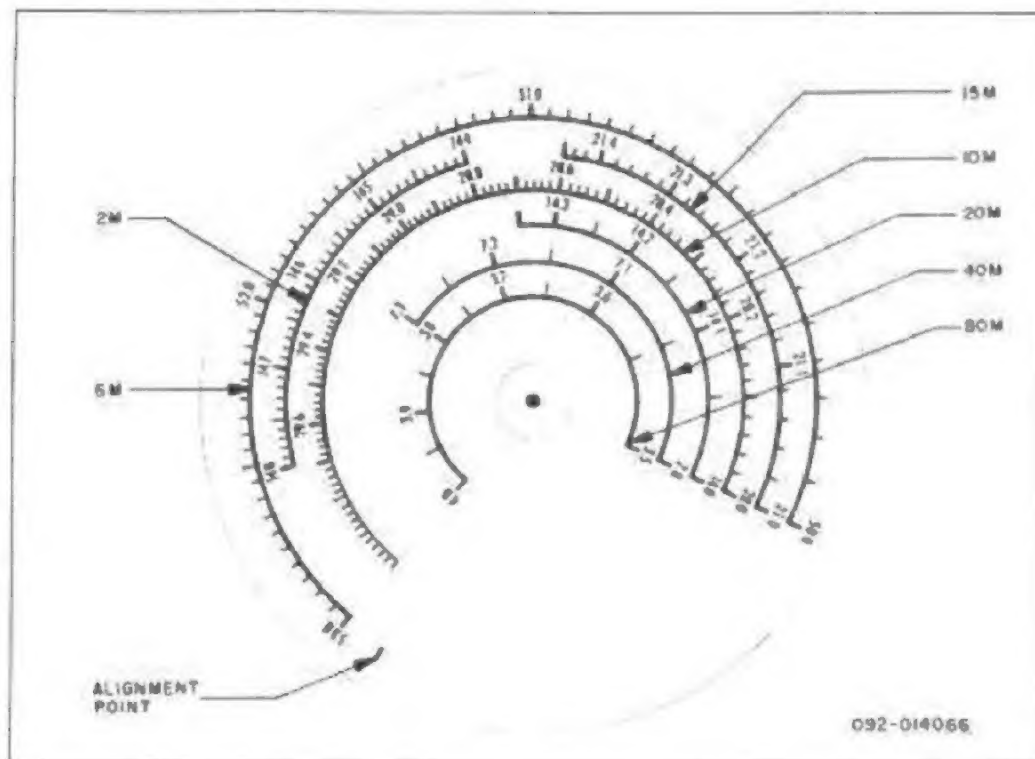

Figure 5. Dial Scale Calibrations.
Figure 5 shows the Model HA-5 dial calibrations. The calibrations indicate the carrier frequency of the transmitter output stage, not the VFO output. The following table lists the amateur bands, the VFO output frequency, and the multiplication necessary to obtain the desired transmitter output frequency.
6. Loosen the dial-locking set screws and set TUNING capacitor C3 so that its plates are fully meshed. Align the dial calibration mark with the indicator line on the dial window. (The dial calibration mark is directly to the left of the 53.0-MC mark on the dial. See figure 5.) Tighten the dial-locking screws.